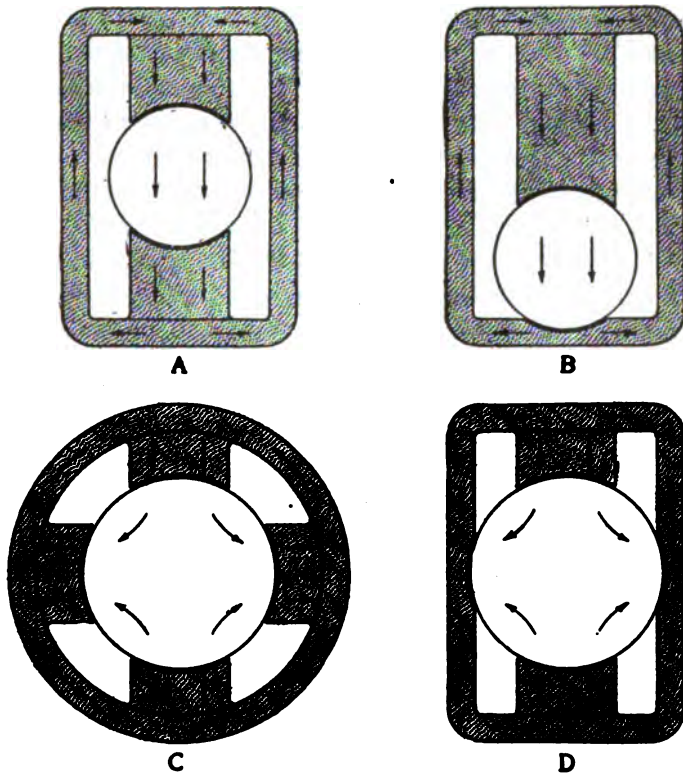

Fig. 33. Forms of Field Frames
*Forms of Field Magnets.* For greater simplicity, all of the illustrations shown in connection with the explanation of the various types of generators are of the old bipolar type in a form long since obsolete. The field frame, as it is designated may, however, take a number of different forms depending entirely upon the designer's conception of what best meets the requirements of ample power in the minimum of space and with the minimum weight. Fig. 33 shows some typical forms of field frames in general use on automobile generators, and it will be noted that in addition to providing a magnetic circuit the field frame also serves to enclose the windings. These are known as "ironclad" types from the fact that all parts are thoroughly enclosed and protected. The arrows in each case indicate the paths of the magnetic circuits, the number of the circuits varying with the number of pole pieces. The form at *A* has two opposed poles, each of which is designed to carry an exciting coil or winding. This is a bipolar machine. Field frame *B* is also of the bipolar type but only one pole carries an exciting winding, the other being known as a consequent pole. In both of these field frames, it will be noted that the magnetic circuits are long, which adds to the magnetic reluctance and tends to decrease the efficiency. To overcome this, multipolar types of field frames are very generally employed. One of these, with two wound or salient poles and two consequent poles, is shown at *D*, the extra poles making four short instead of two long magnetic circuits. *C* is a multipolar type with four salient poles.